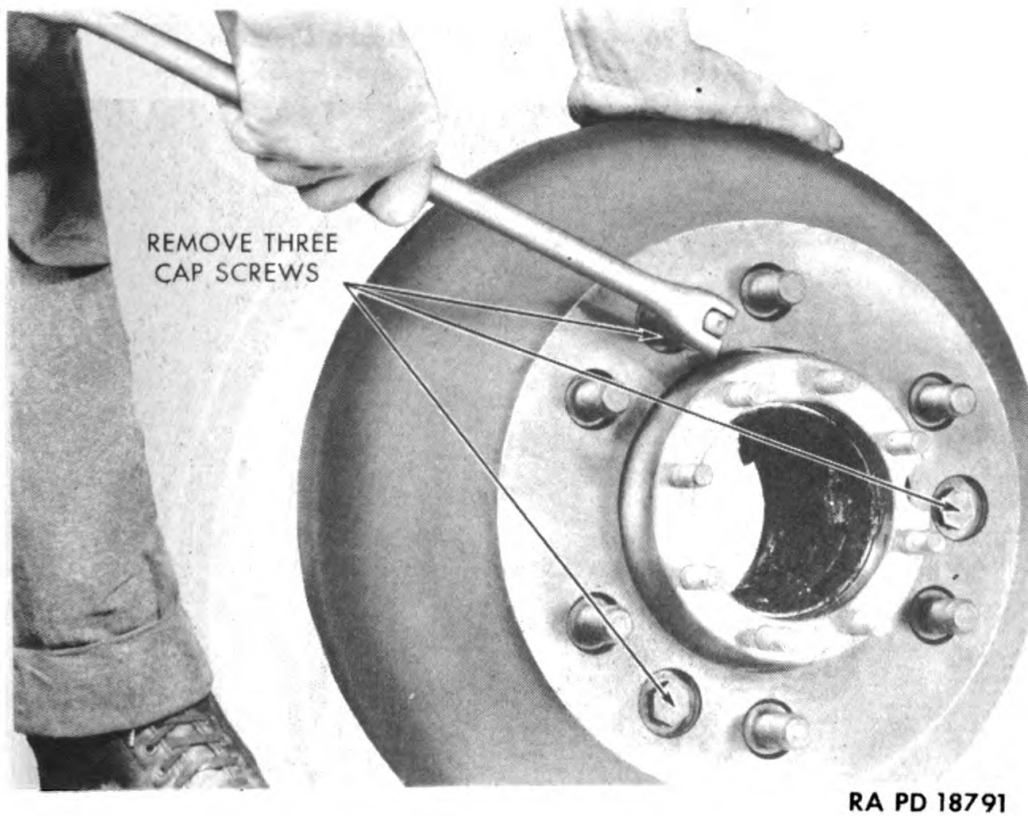

Figure 25 — Removing Brake Drum Cap Screws
c. Remove Brake Drum from Hub. Remove three cap screws and lock washers from brake drum, and remove brake drum from hub (fig. 25).